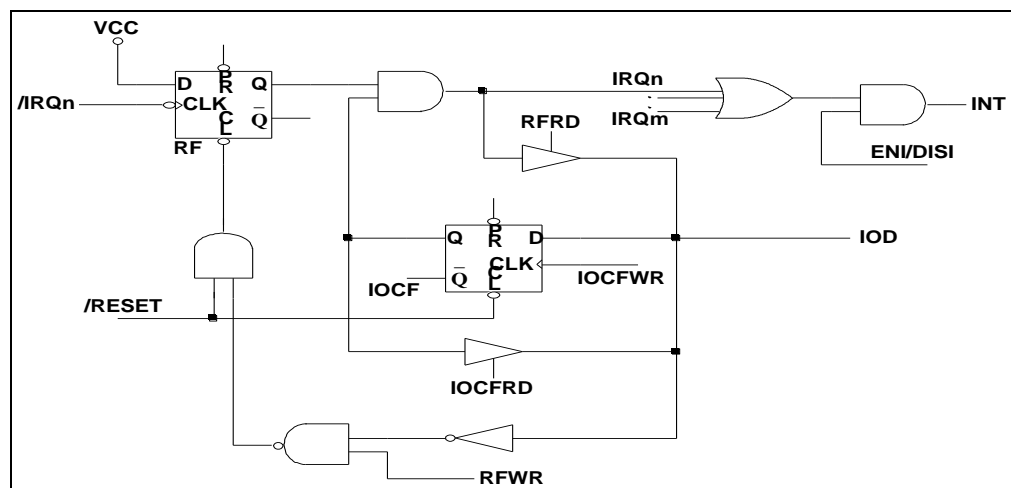

Figure 5-10 Interrupt Input Circuit
The flag (except ICIF bit) in the Interrupt Status Register (RF) is set regardless of the status of its mask bit or the execution of ENI. Note that the outcome of RF will be the logic AND of RF and IOCF (refer to Figure 5-10). The RETI instruction ends the interrupt routine and enables the global interrupt (the execution of ENI).